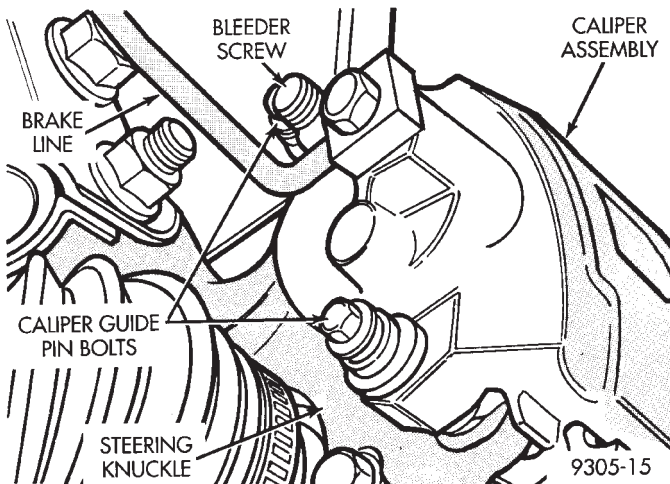

Fig. 54 Disc Brake Caliper Mounting
(1) Raise vehicle on jackstands or centered on a frame contact type hoist. See Hoisting in the Lubrication and Maintenance section of this manual, for the required lifting procedure to be used for this vehicle.
(2) Remove the front wheel and tire assembly from the vehicle.
(3) Remove the 2 guide pin bolts mounting the caliper assembly to the steering knuckle (Fig. 54). Remove the caliper from the front steering knuckle. Refer to Disc Brake Caliper in the Removal And Installation Section in the Brake Group of this service manual for the caliper removal procedure.
(5) Install front brake caliper back over braking disc and align with caliper mounting holes on steering knuckle. Refer to Disc Brake Caliper in the Removal And Installation Section in the Brake Group of this service manual for the caliper installation procedure. Install the caliper to steering knuckle guide pin bolts (Fig. 54) and tighten to a torque of 19 N·m (168 in. lbs.).
(6) Install wheel and tire assembly on vehicle. Tighten the wheel mounting stud nuts in proper sequence until all nuts are torqued to half specification. Then repeat the tightening sequence to the full specified torque of 129 N·m (95 ft. lbs.).
(7) Lower the vehicle to the ground.